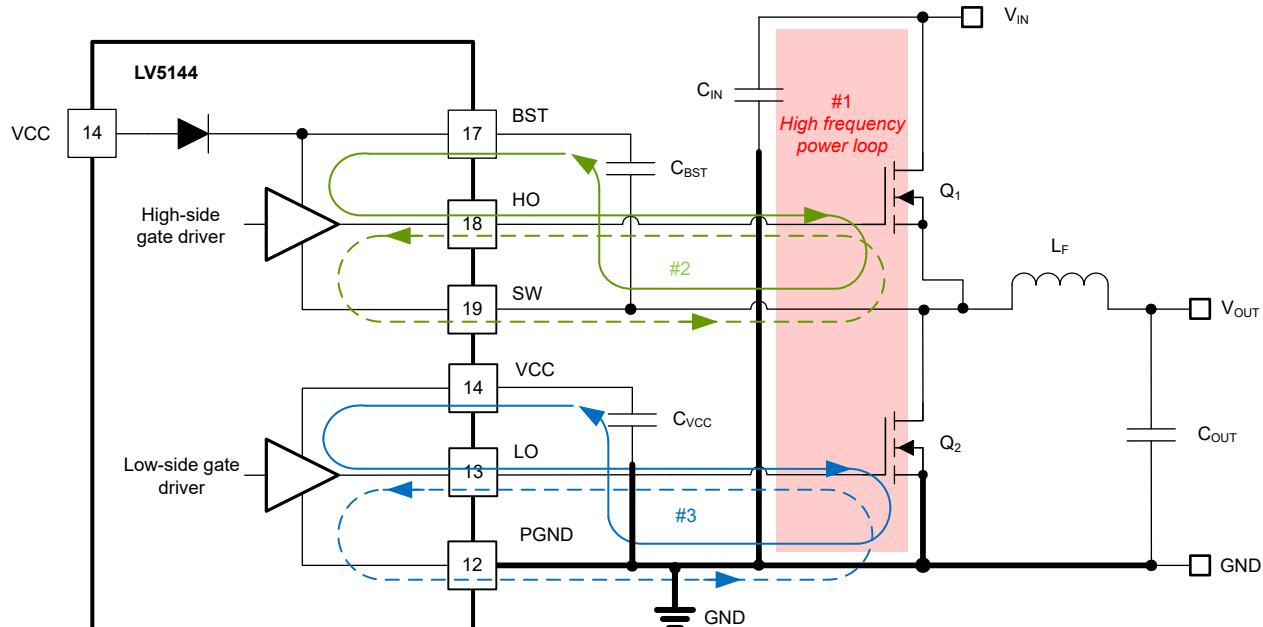

图 9-33. DC/DC Regulator Ground System With Power Stage and Gate Drive Circuit Switching Loops
Proper PCB design and layout is important in a high-current, fast-switching circuits (with high current and voltage slew rates) to assure appropriate device operation and design robustness. As expected, certain issues must be considered before designing a PCB layout using the LV5144. The high-frequency power loop of the buck converter power stage is denoted by #1 in the shaded area of Figure 9-33. The topological architecture of a buck converter means that particularly high di/dt current flows in the components of loop 1, and it becomes mandatory to reduce the parasitic inductance of this loop by minimizing its effective loop area. Also important is the gate drive loops of the low-side and high-side MOSFETs, denoted by 2 and 3, respectively, in Figure 9-33.
- Loop #1: The most important loop to minimize the area of is the path from the input capacitor or capacitors through the high- and low-side MOSFETs, and back to the capacitor or capacitors through the ground connection. Connect the input capacitor or capacitors negative terminal close to the source of the low-side MOSFET (at ground). Similarly, connect the input capacitor or capacitors positive terminal close to the drain of the high-side MOSFET (at VIN). Refer to loop #1 of Figure 9-33.
5. The SW pin connects to the switch node of the power conversion stage and acts as the return path for the high-side gate driver. The parasitic inductance inherent to loop #1 in Figure 9-33 and the output capacitance (C_{OSS}) of both power MOSFETs form a resonant circuit that induces high frequency (> 100 MHz) ringing on the SW node. The voltage peak of this ringing, if not controlled, can be significantly higher than the input voltage. Ensure that the peak ringing amplitude does not exceed the absolute maximum rating limit for the SW pin. In many cases, a series resistor and capacitor snubber network connected from the SW node to GND damps the ringing and decreases the peak amplitude. Provide provisions for snubber network components in the PCB layout. If testing reveals that the ringing amplitude at the SW pin is excessive, then include snubber components as needed.
- Loop 2: high-side MOSFET, Q_1 . During the high-side MOSFET turnon, high current flows from the bootstrap (boot) capacitor through the gate driver and high-side MOSFET, and back to the negative terminal of the boot capacitor through the SW connection. Conversely, to turn off the high-side MOSFET, high current flows from the gate of the high-side MOSFET through the gate driver and SW, and back to the source of the high-side MOSFET through the SW trace. Refer to loop #2 of Figure 9-33.
- Loop 3: low-side MOSFET, Q_2 . During the low-side MOSFET turn-on, high current flows from the VCC decoupling capacitor through the gate driver and low-side MOSFET, and back to the negative terminal of the capacitor through ground. Conversely, to turn off the low-side MOSFET, high current flows from the gate of the low-side MOSFET through the gate driver and GND, and back to the source of the low-side MOSFET through ground. Refer to loop #3 of Figure 9-33.